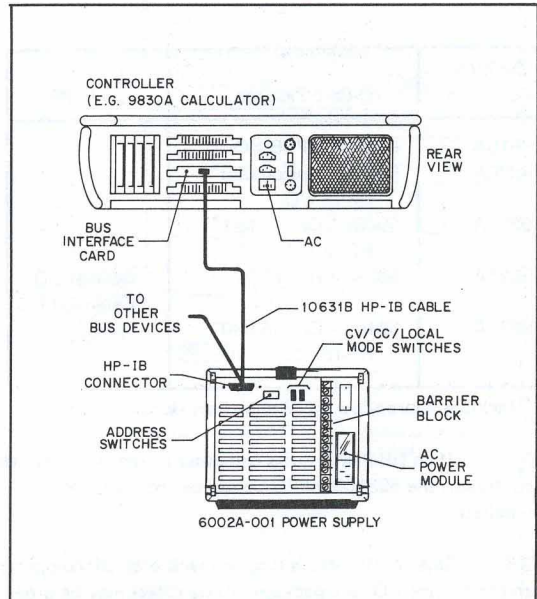

Figure 2-2. 6002A-001 Connections
2-12 Figure 2-2 illustrates a controller (e. g. 9830A) and a 6002A-001 power supply connected to the HP-IB. The address switches on the rear of the 6002A-001 are factory set to the suggested listen address of "%". The LOCAL/CV/CC mode switches are set to CV or CC to program the CV or CC output of the 6002A supply as desired. The mode switches allow programming either the CV or CC output via the HP-IB but not both at the same time. If both CV and CC programming are required via the HP-IB, Option 001 can program one function (CV) and the 59501A can be used to program the other (CC).